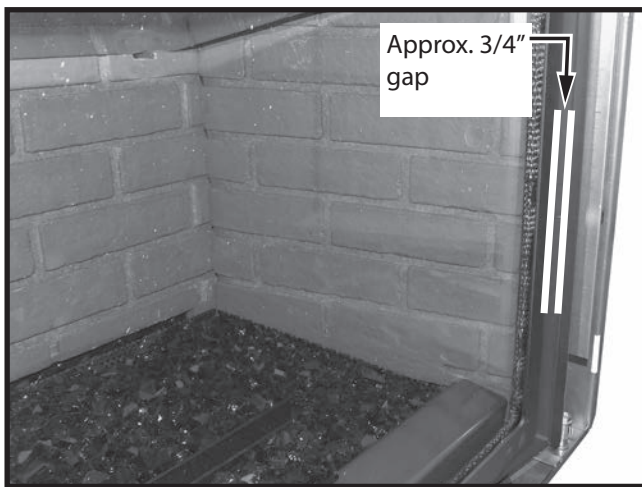

Figure 20: Door handles in closed position.
4. **The handle will not close completely. There will be an approximately 3/4" gap between the handles and the door frame (Figure 20). This is normal.**